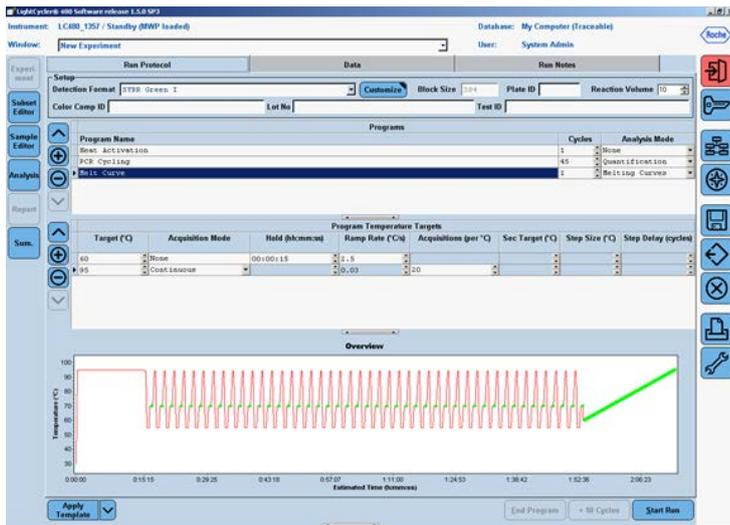

Figure 5. Setup of the third program — Melt Curve.
- Click to change the “Program Name” of the 3rd program to “Melt Curve”. Leave Cycles at “1” and change Analysis Mode to “Melting Curves”. In the “Temperature Targets” section, click the  button once to add one more temperature target line. Enter the values for the following parameters (Figure 5):